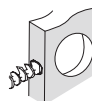

Figure 3b
- Drill 1" (25mm) hole in center of door edge for Latch Assembly (Figure 3b).